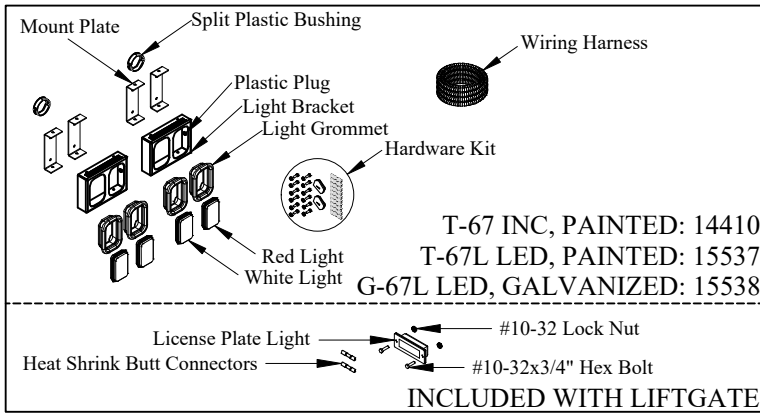

Figure 1: Part Identification
1. Verify kit (Figure 1, Table 1).
2. Locate the license plate light and mounting hardware in the maintenance manual kit (Figure 1, Table 1).